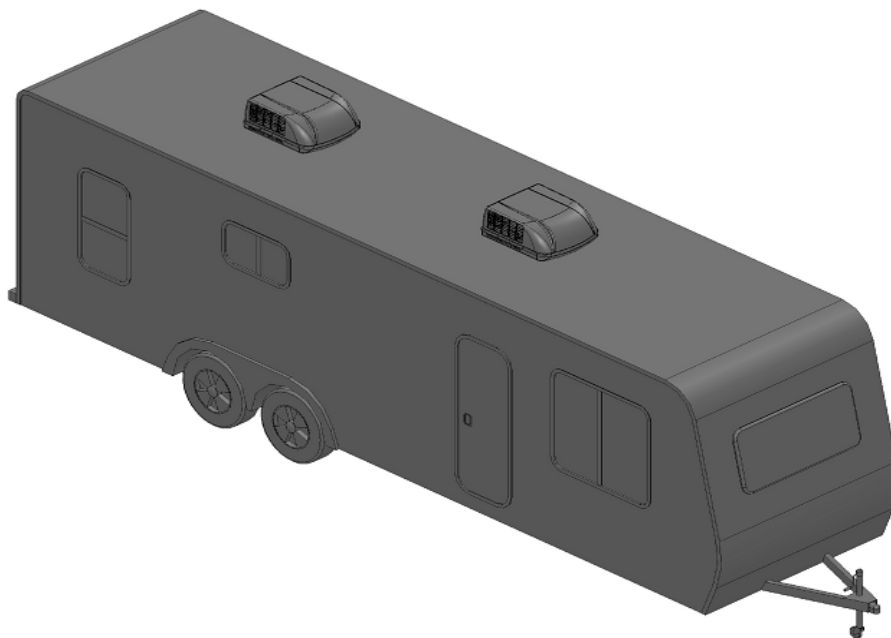

FIGURE 2
2. For two unit installation: Install one air conditioner / heat pump 1/3 distance and the other air conditioner / heat pump 2/3's from front of RV and centered from side to side. See FIG. 2.